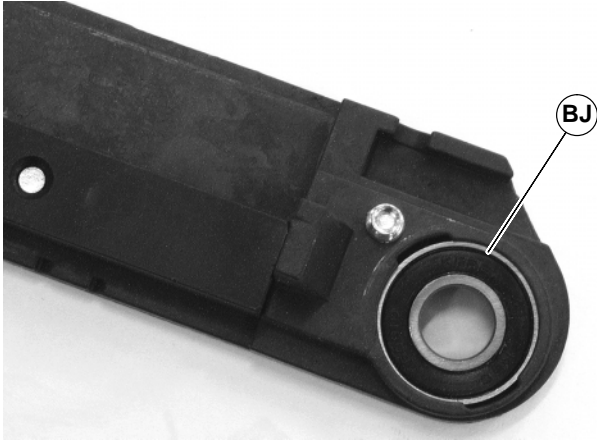

Figure 43
2. Insert bearing (BJ of Figure 43) into head plate slot and twist bearing to fit into bearing enclosure.